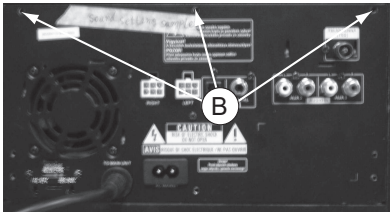

Figure 2
- 2) Loosen 3 screws "B" to remove the Speaker Box as shown in figure 2.